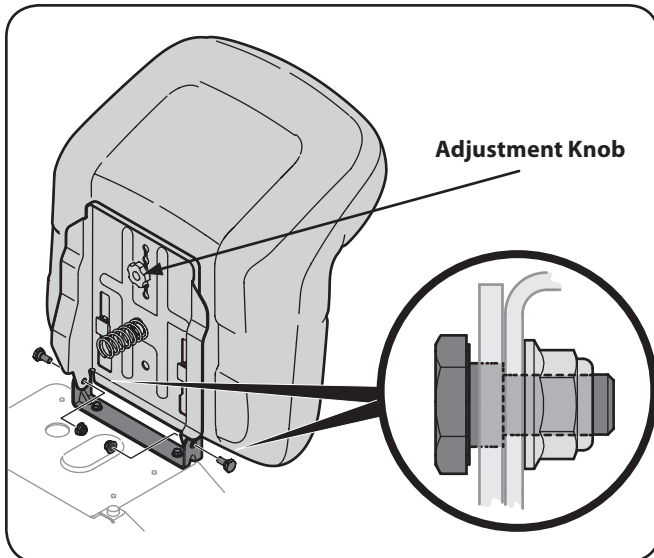

Figure 3-8
- Install the two shoulder bolts and lock nuts removed from the seat mounting bracket in Step 1. See Figure 3-8.
- To adjust the position of the seat, remove the adjustment knob on the bottom of the seat. Slide the seat forward or backward as desired. Retighten the adjustment bolt. Refer to Figure 3-8.